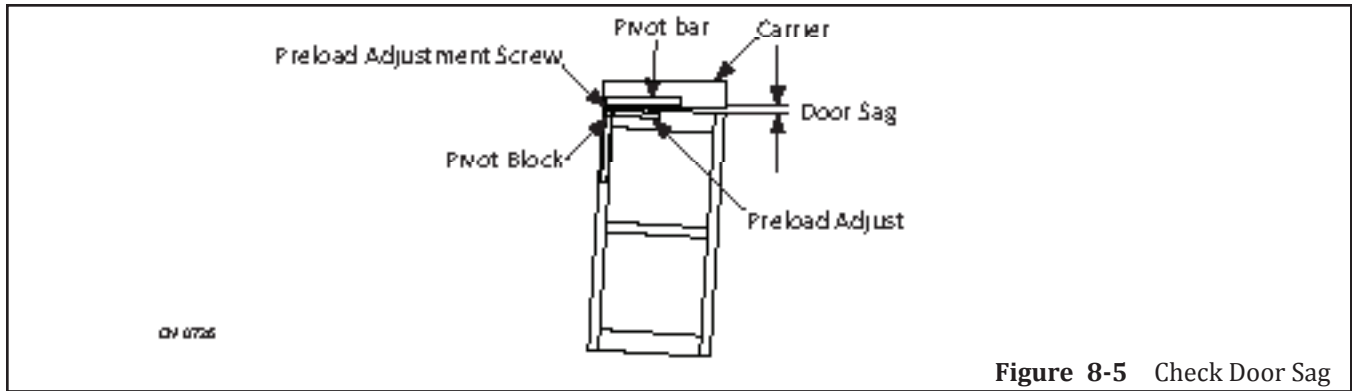

Figure 8-5 Check Door Sag
2. Check for door sag. Please see Figure 8-5.